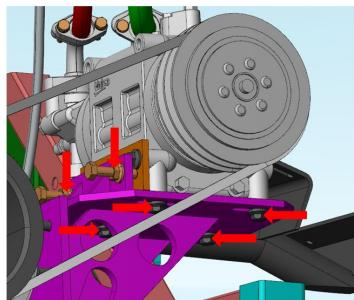
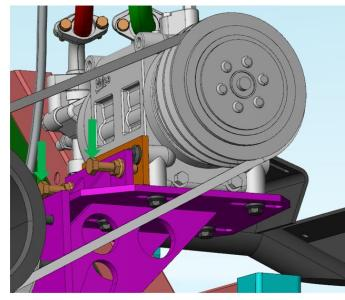
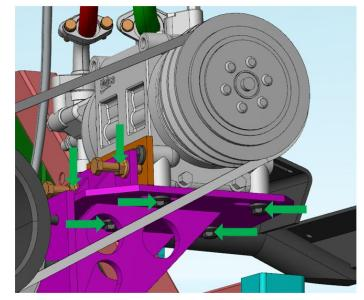

Figure 4
Figure 5
Figure 6
- 3) If the tension is outside the standard, loosen bolt and nut (figure 4) counterclockwise, adjust bolt (figure 5) clockwise to standard tension, lock nut and bolt (figure 6) clockwise.